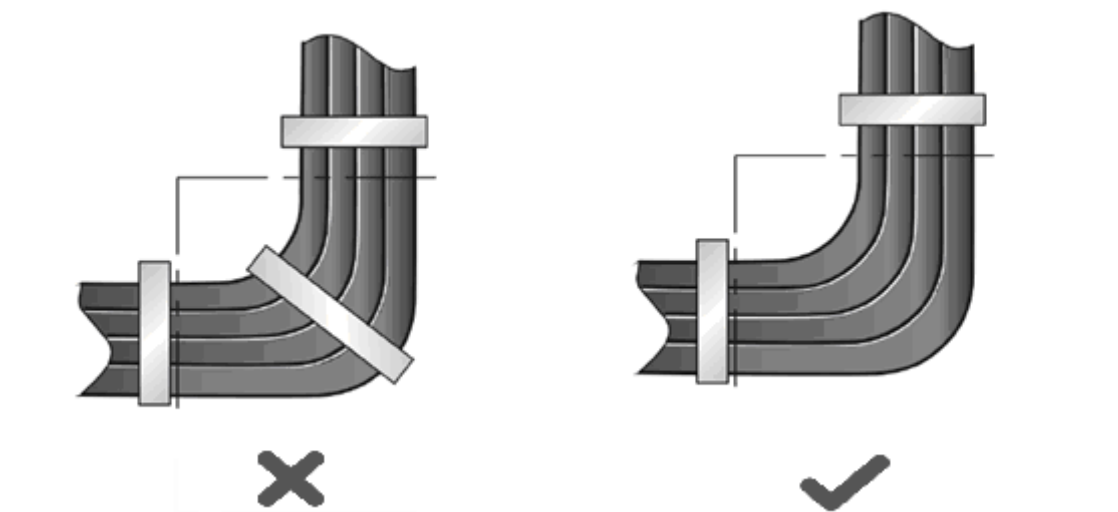

Figure D-3 Binding Cables (3)
- When cables need to be bent, please bundle them up but do not tie them where the cables will be bent. Otherwise, considerable stress may be generated in cables, breaking cable cores, as shown in Figure D-3